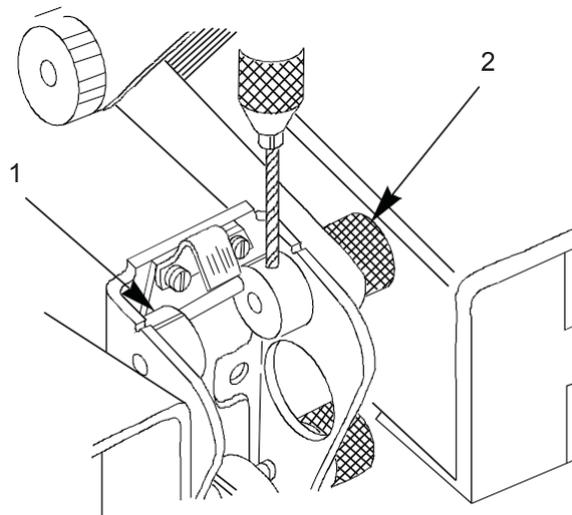
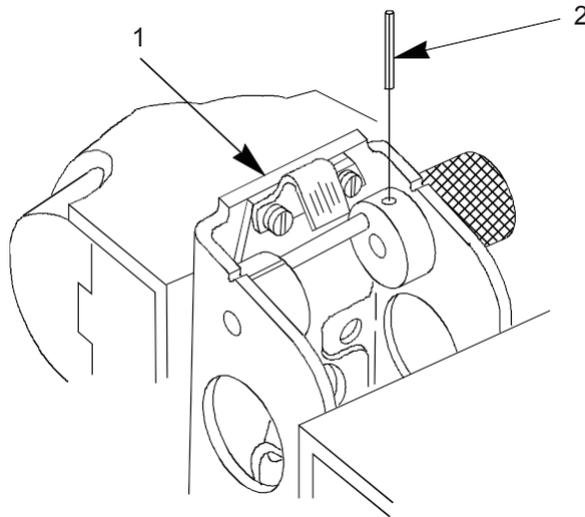

Figure 43. Elevator Assembly, Rear Sight Base.
Figure 44. Spring Pin
15. With blade of feeler gage installed and hole in elevator assembly (Figure 43, Item 1) in vertical position, clamp in protective jawed vise.
16. Using hole in elevator assembly (Figure 43, Item 1) as a guide, drill a hole through the shaft of the elevation knob assembly (Figure 43, Item 2) using a No. 53 drill bit. Remove feeler gage from rear sight base (Figure 44, Item 1).
17. Insert new spring pin (Figure 44, Item 2) and drive in flush.